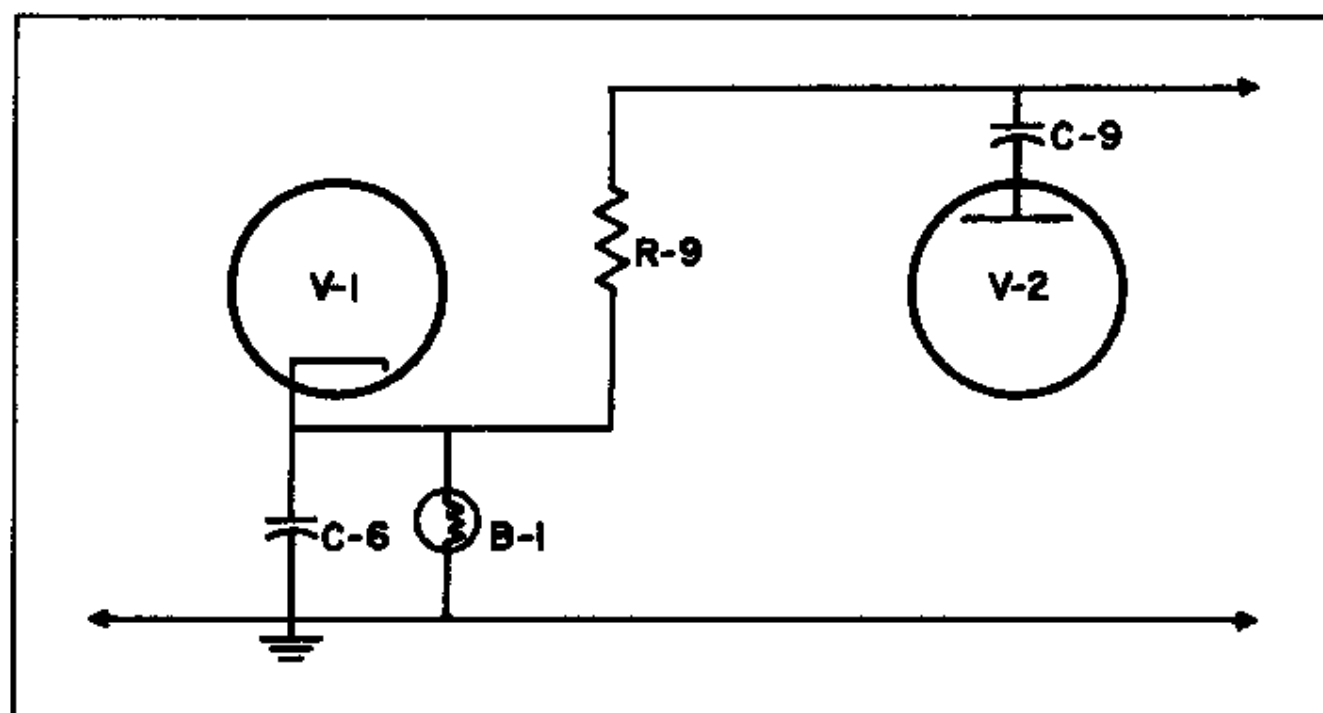

FIG. 12
**NEGATIVE FEED-BACK AND AUTOMATIC AMPLITUDE LIMITOR:** As may be seen in Fig. 12, the negative feed-back voltage used in the oscillator section is derived from the output of the second oscillator tube, V2, and is fed back to the cathode of the first oscillator tube, V1. The magnitude of the negative feed-back is determined by a resistor network, one element of which is the incandescent lamp, 356. A property of this lamp is that it has a positive temperature coefficient; however it possesses sufficient thermal inertia so that its temperature is substantially constant at all audio frequencies. Because of the lamp's positive temperature coefficient, the oscillations can not build up to a value in excess of the tube's handling capacity. This is so because the resistance of the lamp increases with increased current. As a result the degeneration in the cathode circuit of V1 increases, causing less amplification in the oscillator section. Thus, the lamp serves as an automatic amplitude limiter. Pot R9 is set at calibration for the proper negative feed-back.